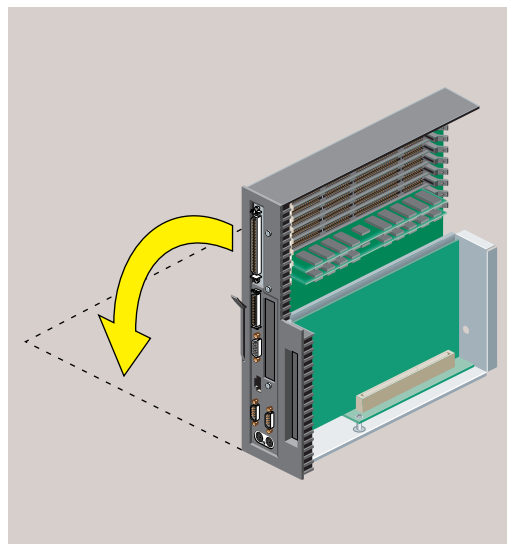

Figure 2-5 Laying the System Module on a Flat Surface
5. Lay the system module on a clean, flat surface, such as your desktop (Figure 2-5).